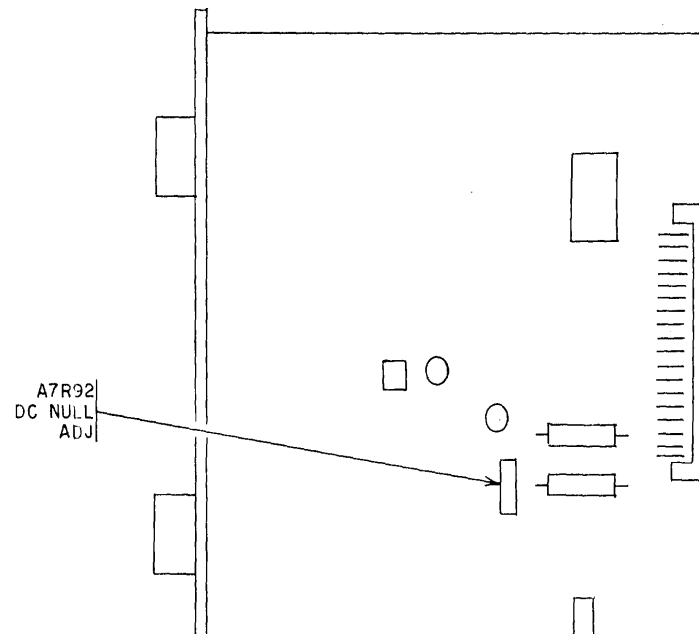

Figure 3. A7 mixer.
(11) Remove ground from A6TP5 and adjust **DC NULL ADJ A7R92** (fig. 3) for 0 V ± 0.01 V dc (R).
(12) Press **ON-STBY/POWER** pushbutton to **OFF**.